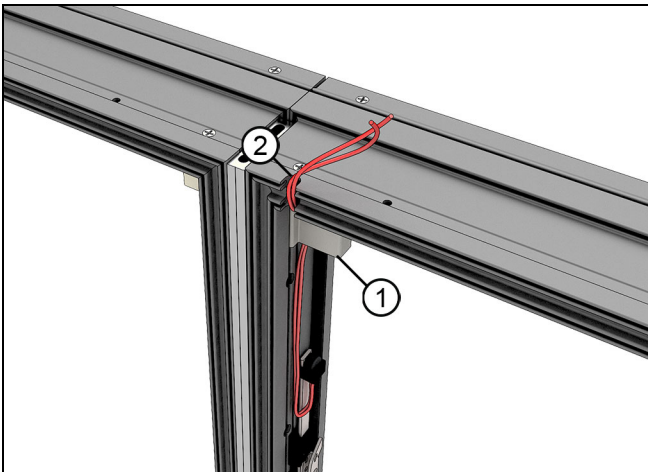

Figure 39 Vertical Standard Mull
2. Fish wire through the factory provided notch located in the head jamb. See Figure 39.